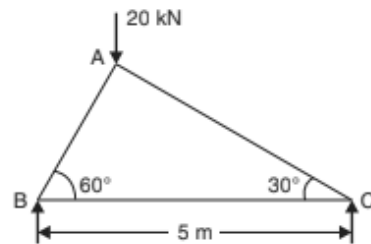

Fig. 7.5
**Problem 7.1.** Find the forces in the members  $AB$ ,  $AC$  and  $BC$  of the truss shown in Fig. 7.5.